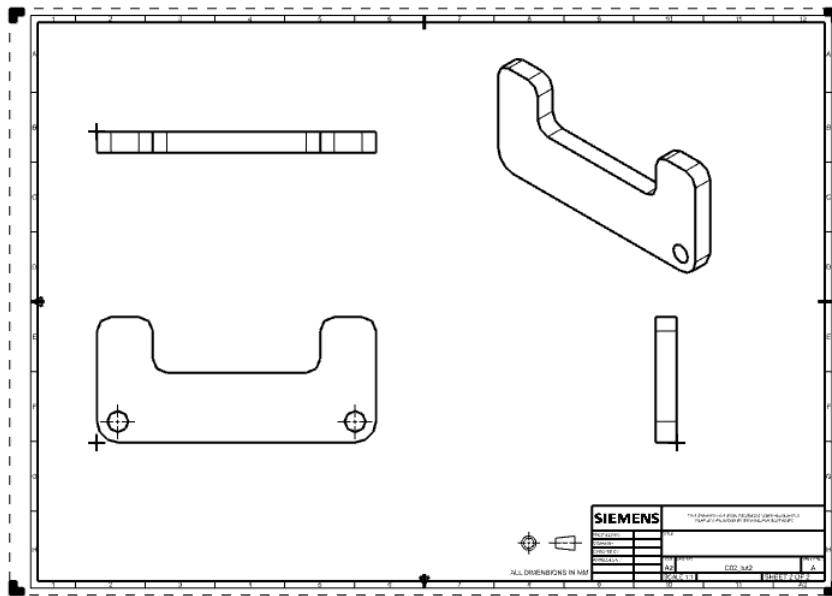

Figure 2-75 The drawing sheet after creating the drawing views
5. Choose the **Base View** tool from the **View** panel of the **Home** tab; the **Base View** dialog box is displayed. Next choose the **Isometric** option from the **Model View to Use** drop-down list of the **Model View** rollout; the floating trimetric view gets attached to the cursor. Click to place this view on right of top view placed earlier. The resulting drawing sheet after generating the drawing views is shown in Figure 2-75.